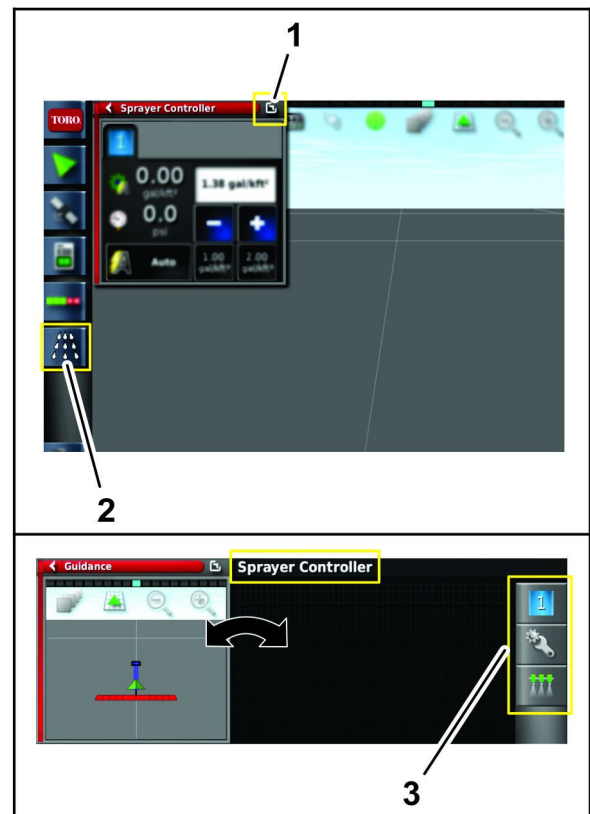

Figure 177
3. Press the sprayer-controller icon (Figure 177).
- Press the switch window icon to return sprayer controller menu. (Figure 177).